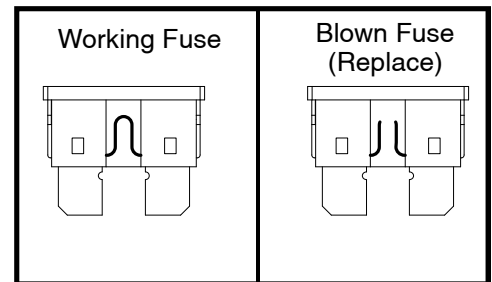

Figure 19. Fuse Replacement
2. Examine the fuse in the fuse holder. **See figure 19.** If the fuse is blown, it needs to be replaced.